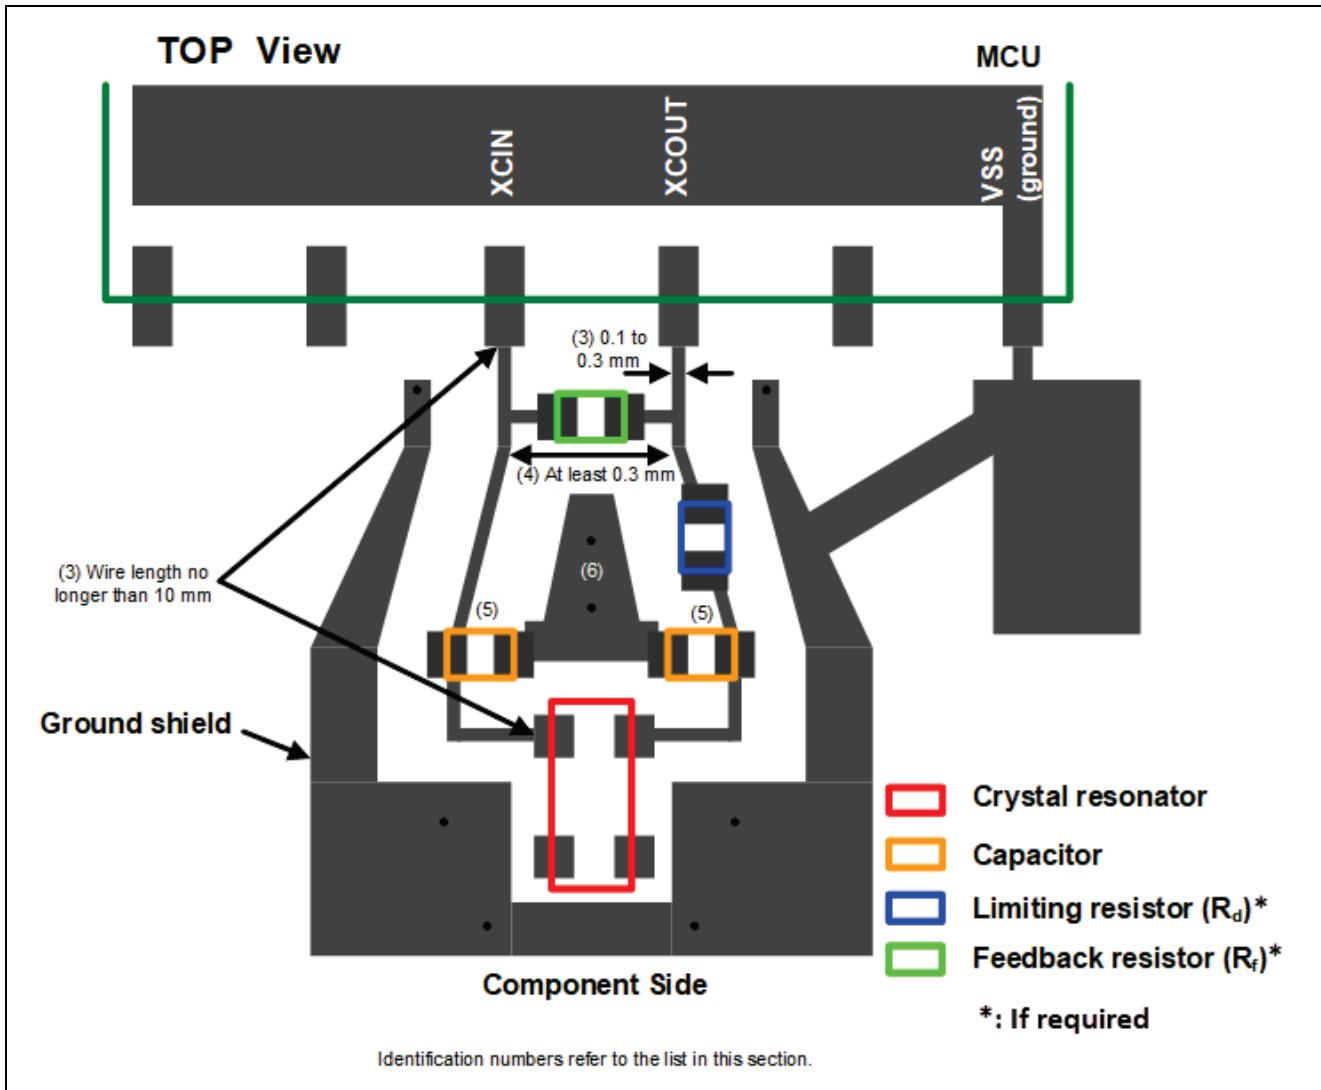
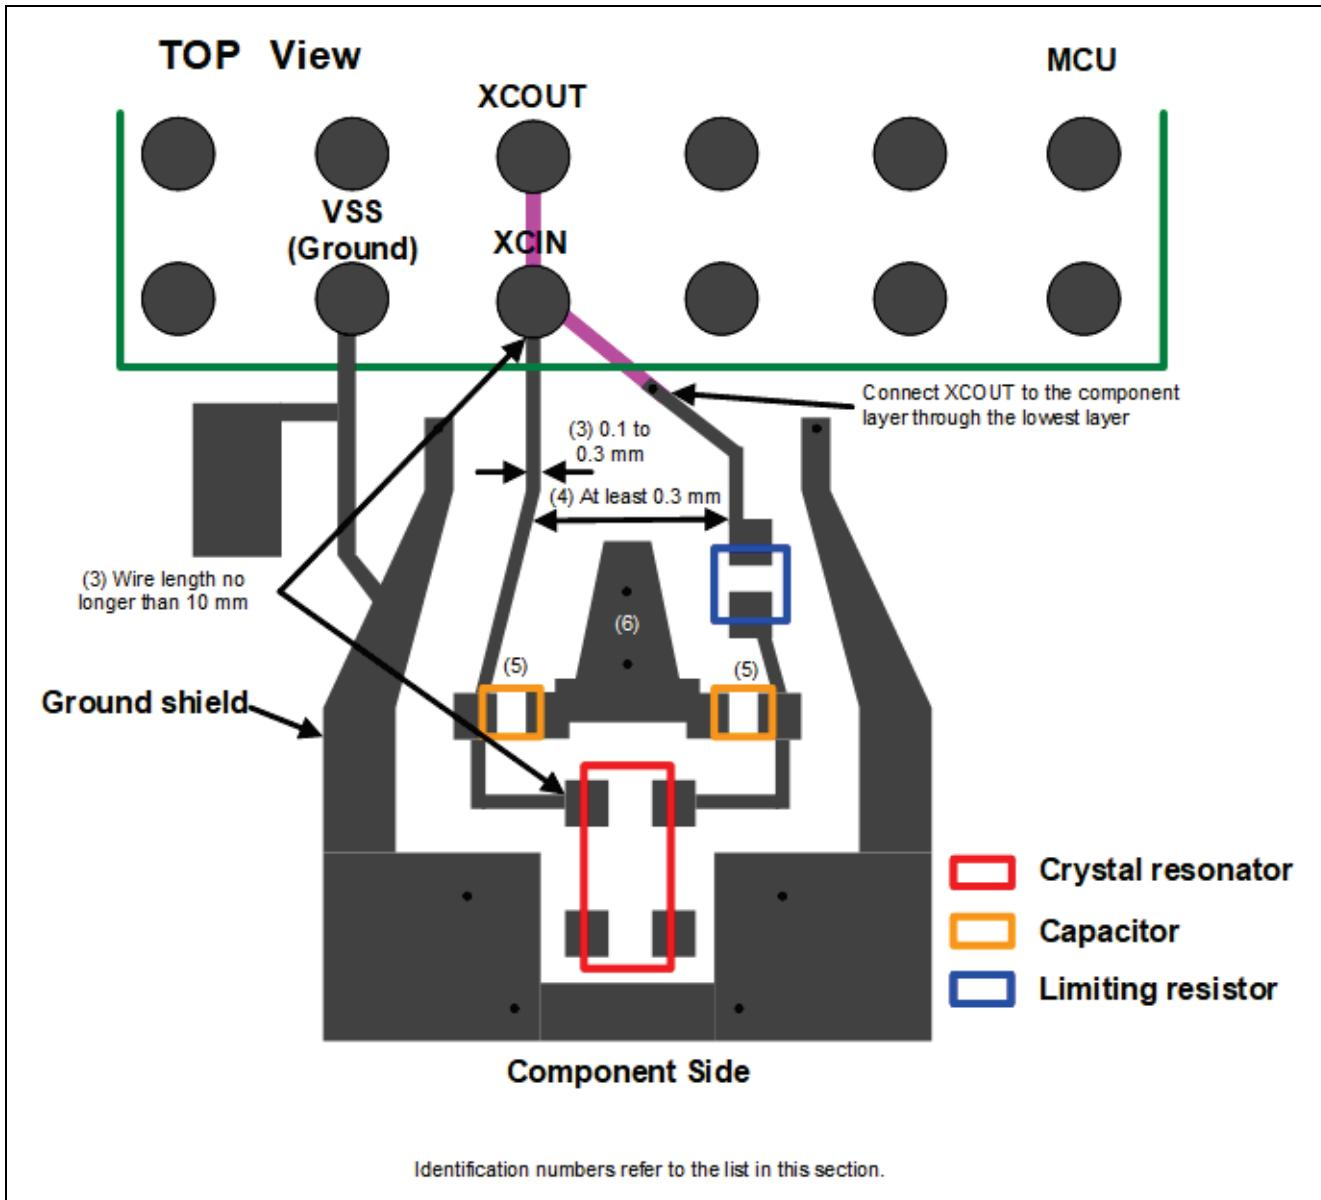
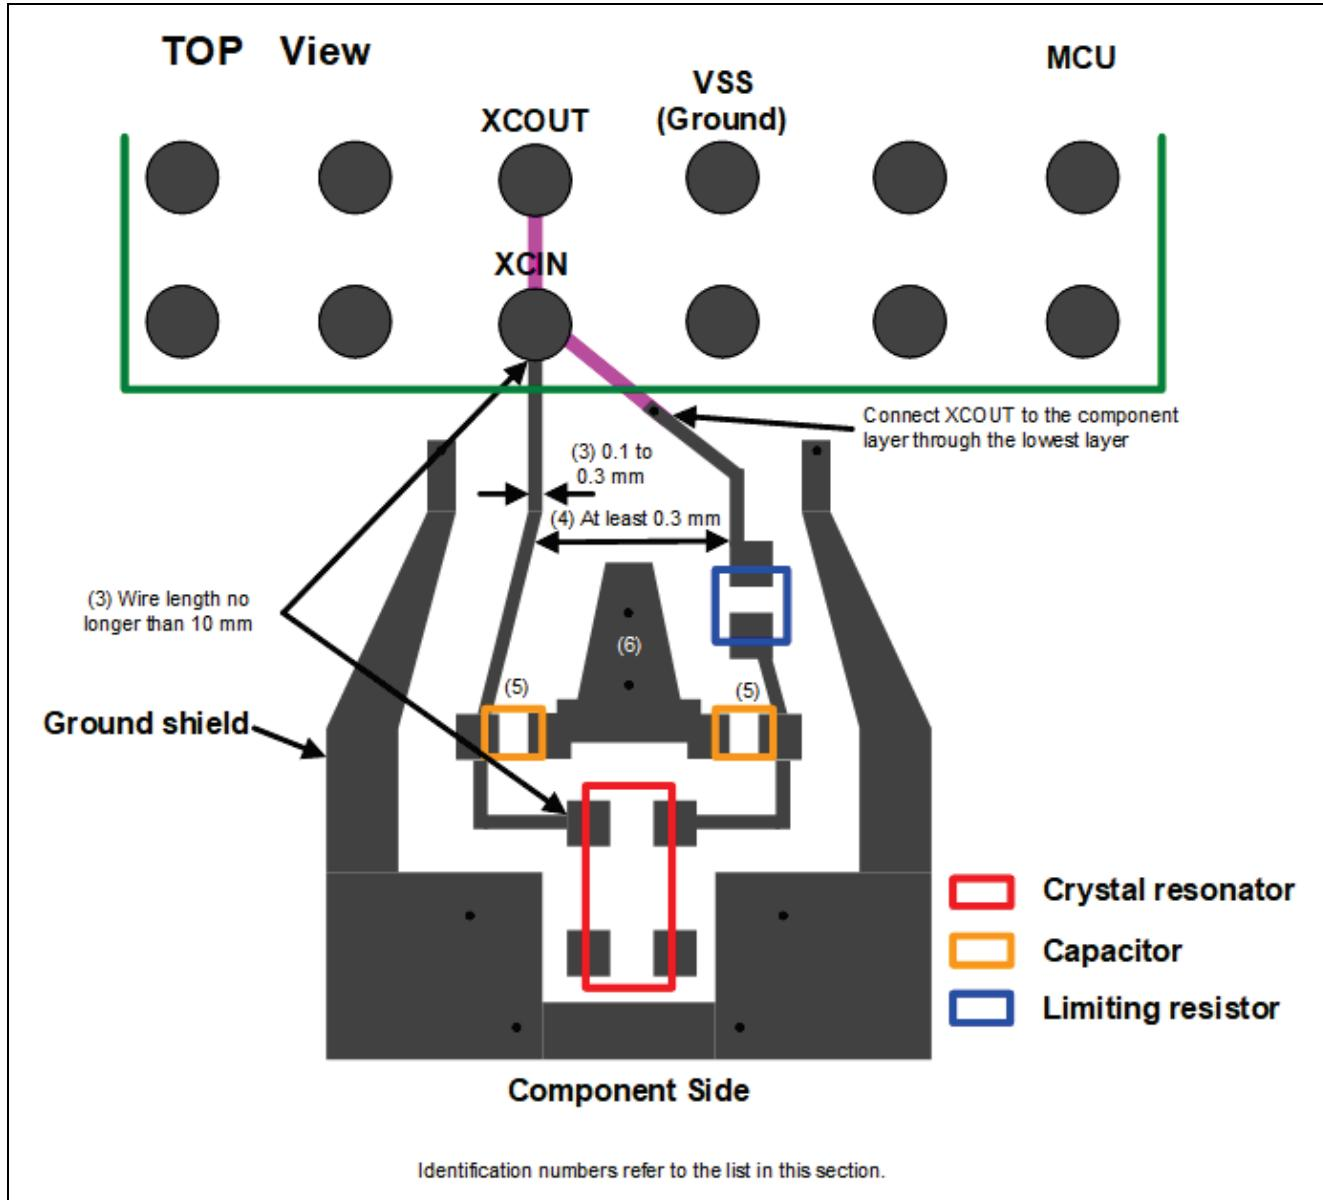
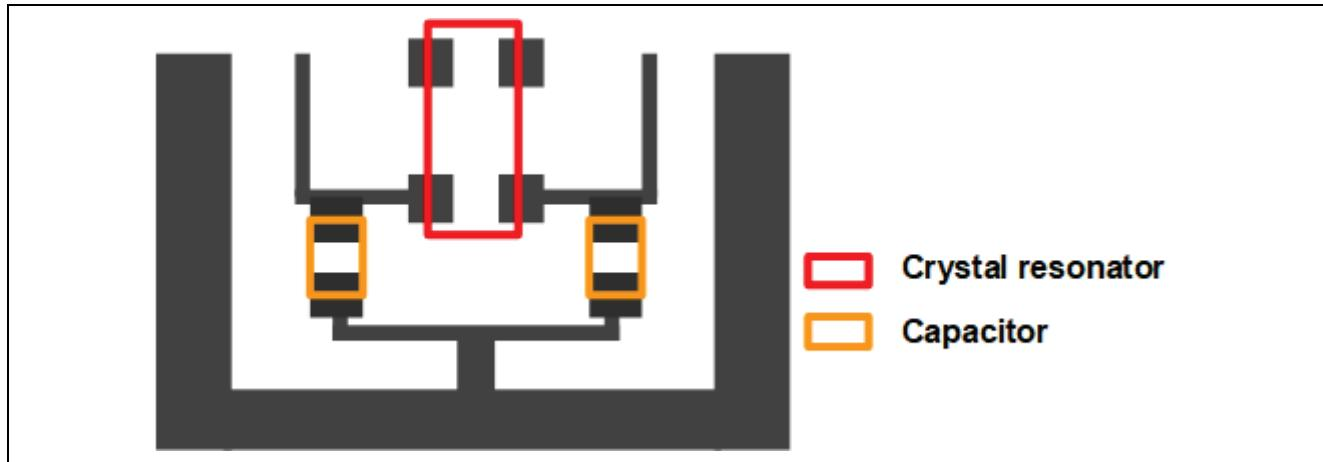

Figure 5. Example of Preferred Placement and Routing for XCIN and XCOUT, LQFP Packages
Figure 6. Example of Preferred Placement and Routing for XCIN and XCOUT, LGA Packages
Figure 7. Example of Preferred Placement and Routing for XCIN and XCOUT, BGA Packages
Figure 8. Example of Alternate Placement and Routing for XCIN and XCOUT
The following list describes points on routing for XCIN and XCOUT. Figure 5, Figure 6, and Figure 7 show examples of preferred trace routing for XCIN and XCOUT. Figure 8 shows an alternate example of trace routing for XCIN and XCOUT. Identification numbers in the Figures refer to this list.
5. Connect external capacitors as close together as possible. Connect the traces for the capacitors to the ground trace (hereinafter referred to as the “ground shield”) on the component side. For details on the ground shield, refer to section 2.2.2. When the capacitors cannot be placed using the preferred placement, use the placement shown in Figure 8.